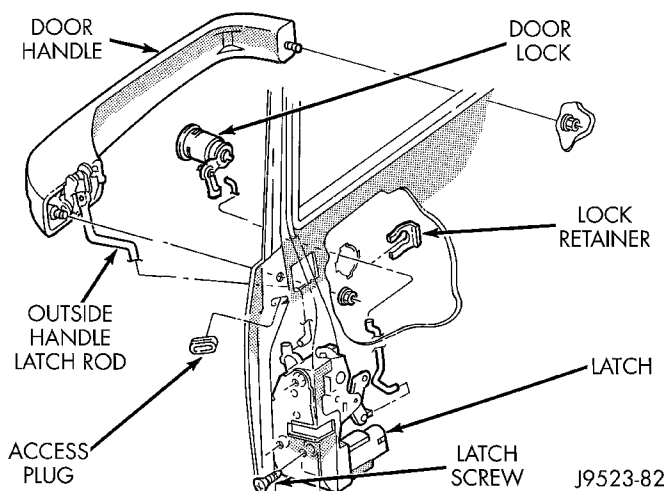

Fig. 17 Front Door Outside Handle
- (1) Remove door trim panel and waterdam.
- (2) Remove access hole cover and door handle retaining nuts.
- (3) Disconnect handle latch rod from latch (Fig. 17).
- (1) Remove door trim panel and waterdam. If necessary, refer to removal procedure.
- (2) Disconnect door latch lock cylinder rod at door latch (Fig. 17).